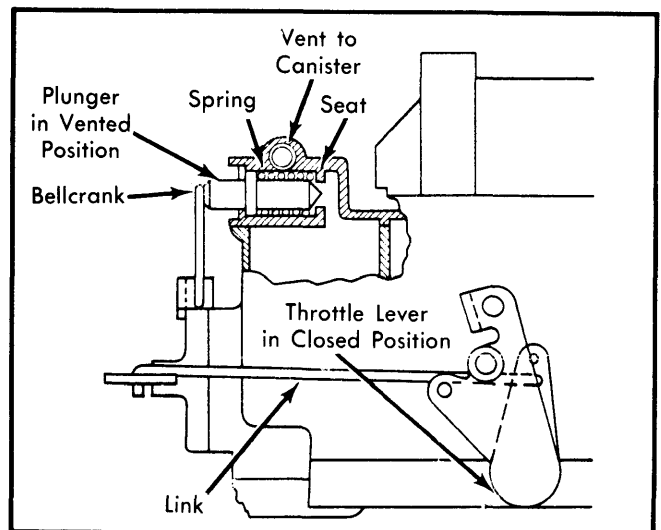

Fig. 8 Fuel Bowl Vent
2) Manually depress stem of bowl vent valve. Measure clearance between end of stem and flat on end of bell crank. See Fig. 8.